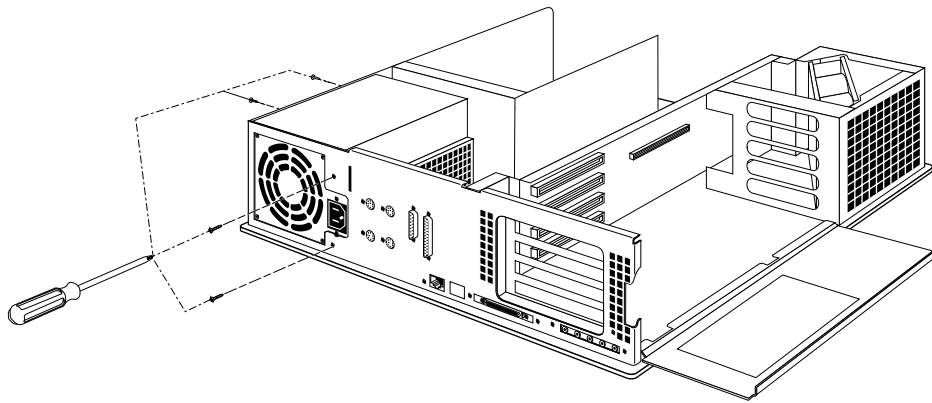

Figure 2-6 Removing the Power Supply Screws
9. Unfasten the four screws that hold the power supply in place. Two are located on the back of the system and the other two are located on the side of the system, as shown in Figure 2-6.